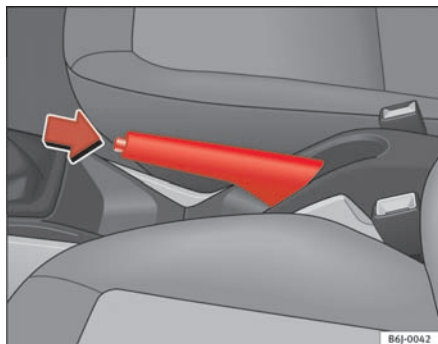

Fig. 100 Handbrake between the front seats
- Pull the handbrake lever up firmly ⇒ fig. 100.
- Pull the lever up slightly and press the release knob in the direction of the arrow ⇒ fig. 100 and guide the handbrake lever down fully ⇒ ⚠.